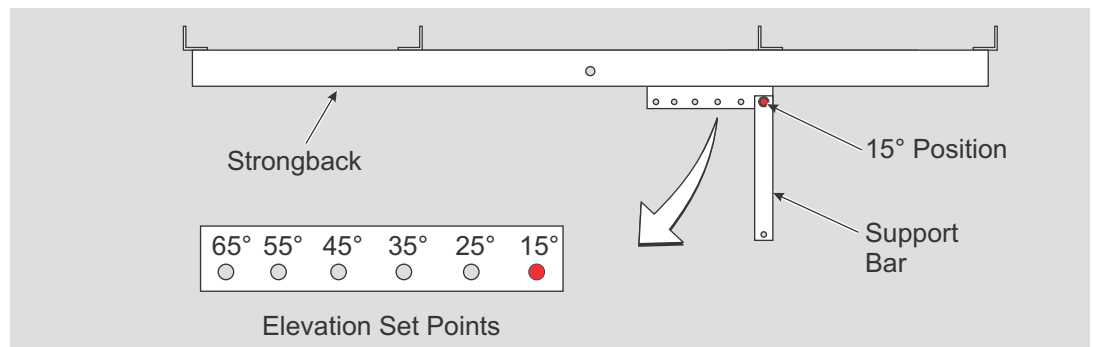

Figure 2-1: Positioning Support Bar
- Remove the Support Bar from the Strongback and re-install in the 15° elevation set point. Secure with the 3/8" hardware and finger tighten. (See Figure 2-1)